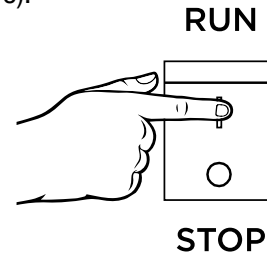

Figure 10 - Engine Control Switch - RUN
5. Push the engine control switch into the **RUN** position (see Figure 10).
5. Push the engine control switch into the RUN position (see Figure 10).